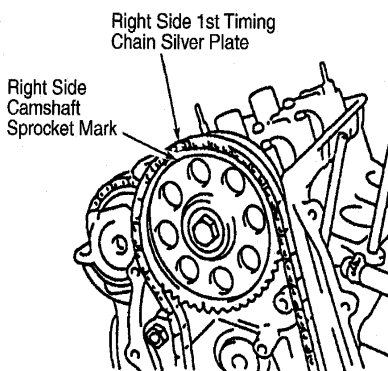

FIGURE 8.
9. Align timing marks on LH #2 idler and crankshaft sprocket as in Figure 8.